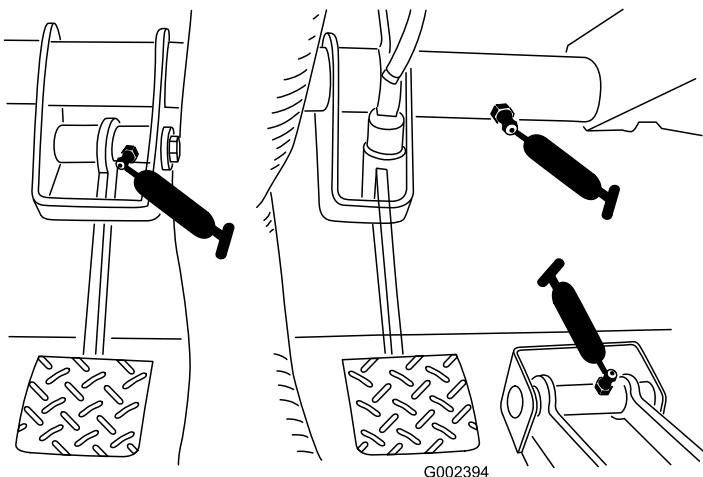

Figure 35
- Clutch (1), accelerator (1), brake (1) (Figure 35)